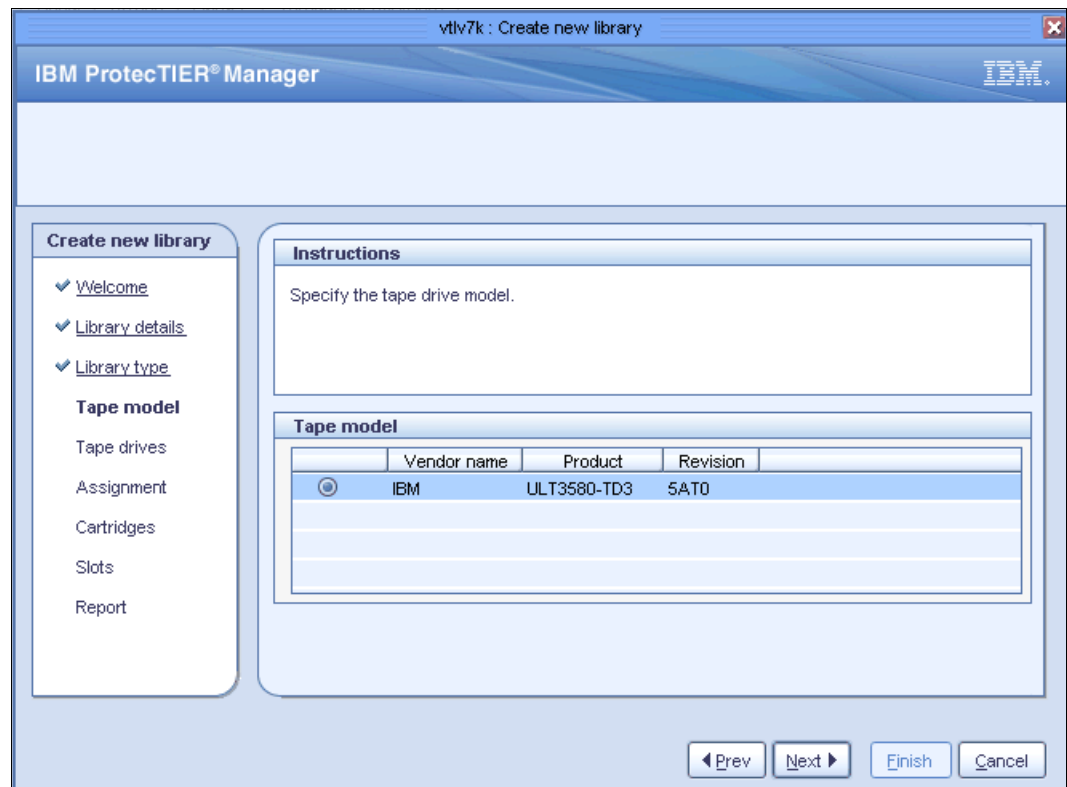

Figure 3-4 Create new library - Tape model window
6. Click **Next**. The Tape model window opens (Figure 3-4).